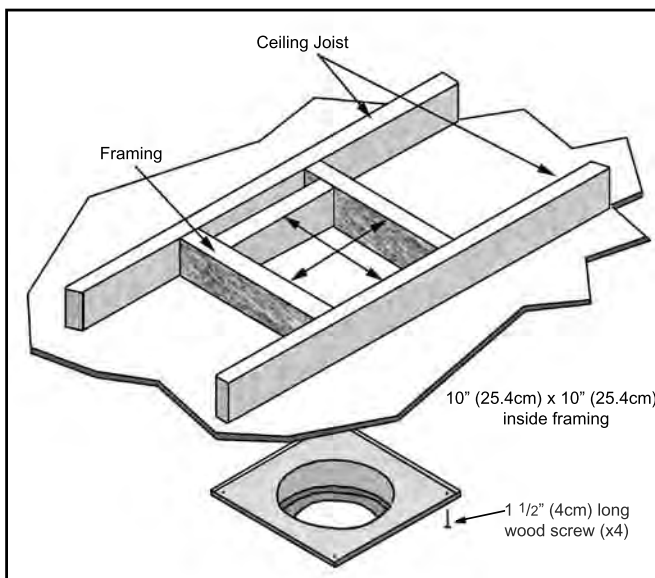

Figure 14: Wall Framing for 10" (25.4 cm) x 10" (25.4 cm) Hole for Vertical Installation.
STEP 3. To install the Round Support Box/Wall Thimble in a flat ceiling, cut a 10 inch (25.4 cm) square hole in the ceiling, centered in the hole drilled in Step 2. Frame the hole as shown in Figure 14.
(1) For multi story installations. A ceiling firestop is required at the second floor, and any subsequent floors (see Figure 14). The opening should be framed to 10" (25.4 cm) x 10" (25.4 cm) inside dimensions, in the same manner as shown in Figure 14.
(2) Any occupied areas above the first floor, including closets and storage spaces, which the vertical vent passes through, must be enclosed. The enclosure may be framed and sheetrocked with standard building materials. However consult the appliance manufactures installation instructions for the minimum allowable clearance between the outside of the vent pipe, and the combustible surfaces of the enclosure. Do not fill any required air spaces with insulation.